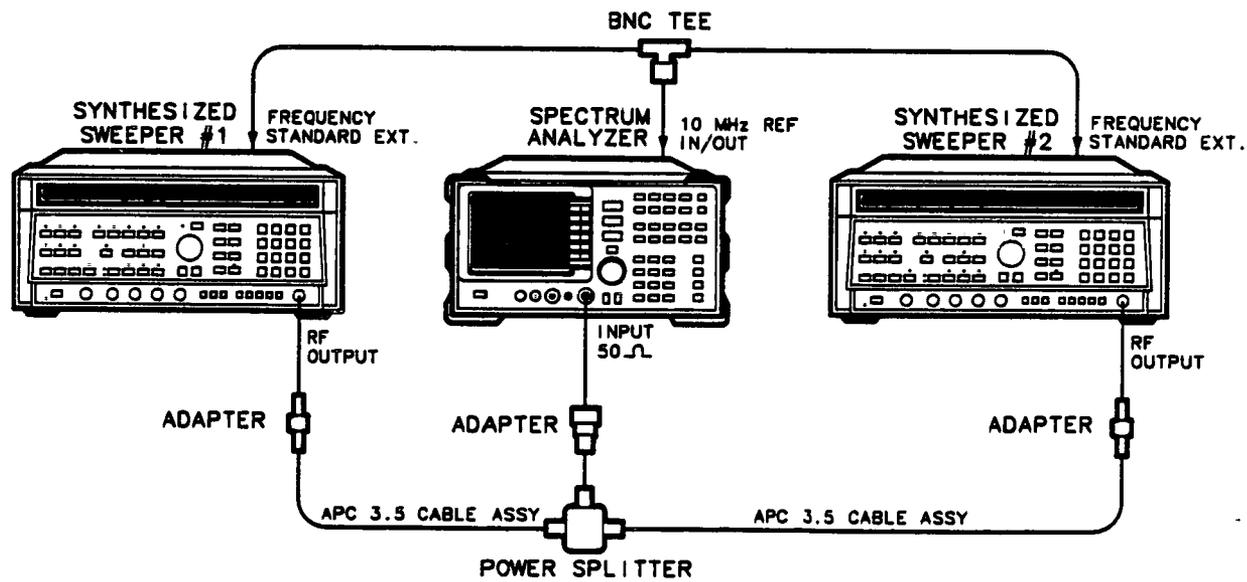

Figure 3-19. Frequency Span Accuracy Test Setup
1. Connect the equipment as shown in Figure 3-19. Both HP 8340A's should be set for EXT FREQUENCY STANDARD. Connect the power splitter directly to the analyzer's INPUT 50 Ω . Do not use a cable.